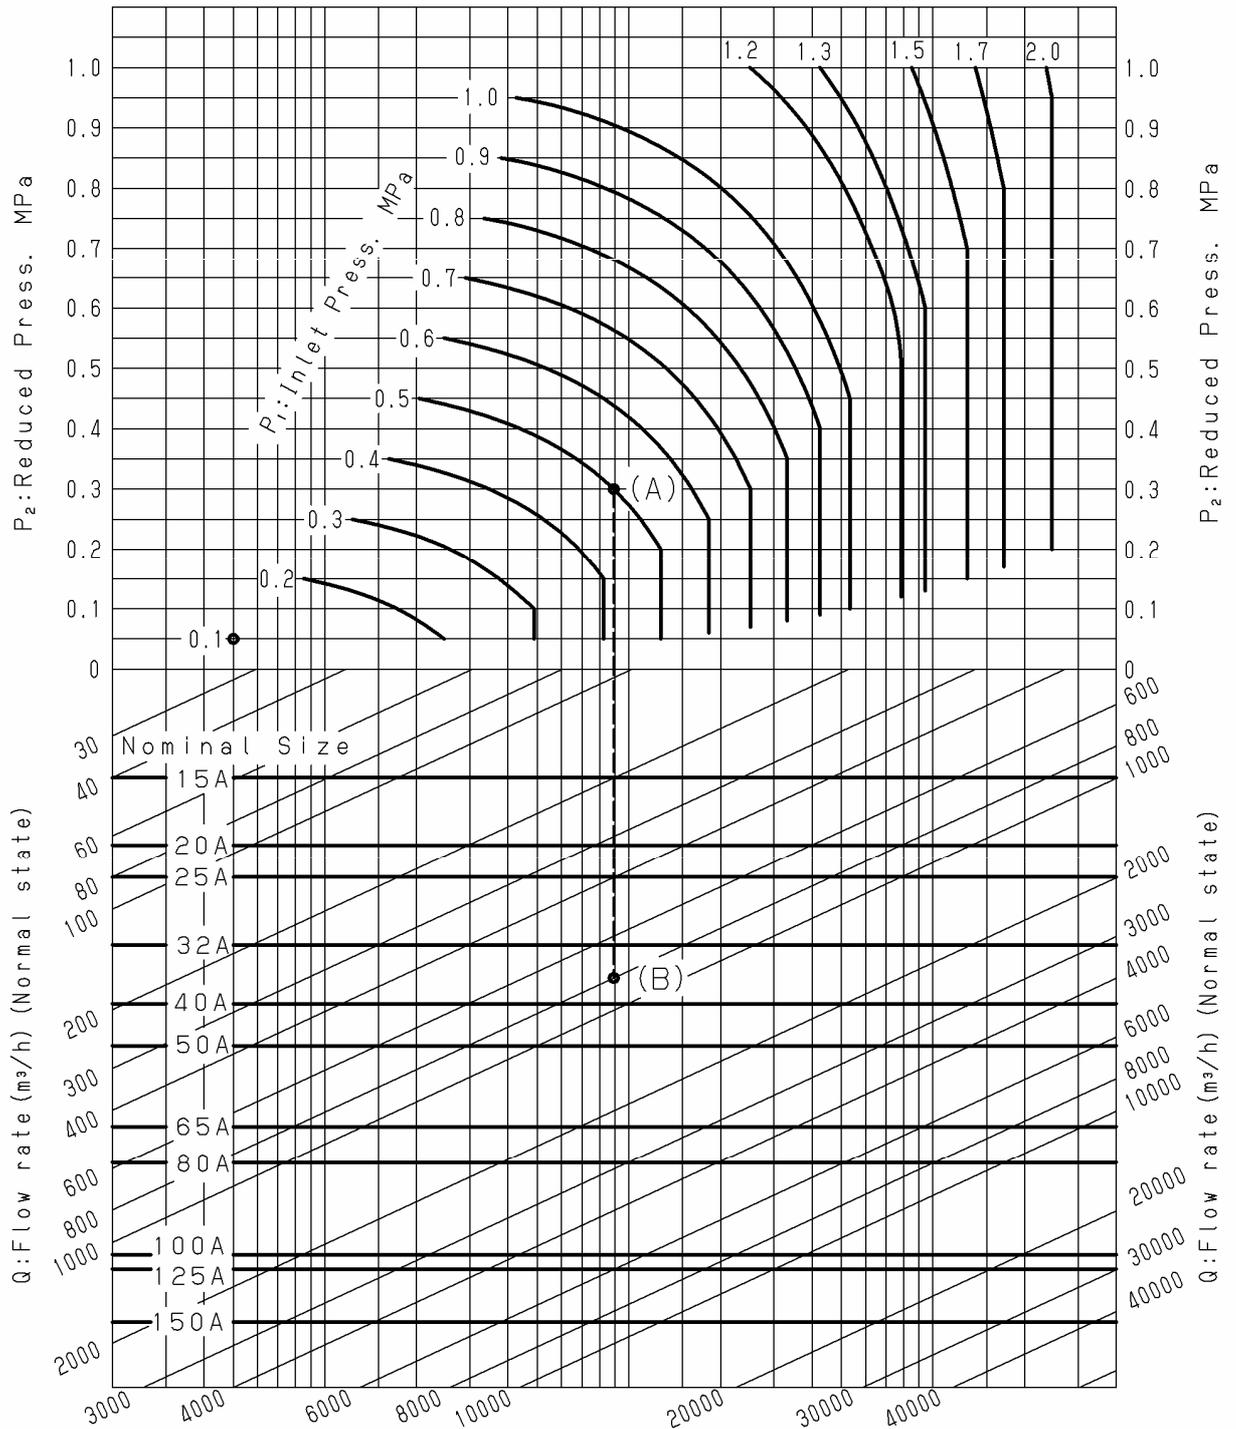

Fig. 7
- (14) If the large valve is used for gas, install a reducer to prevent excessive flow speed. (The flow speed made in pipings is appropriate, if it is 15m/s or less.)
- (15) Above the center of the pipe line, be sure to reserve enough space larger than H2(Fig. 7). Please see the following table.